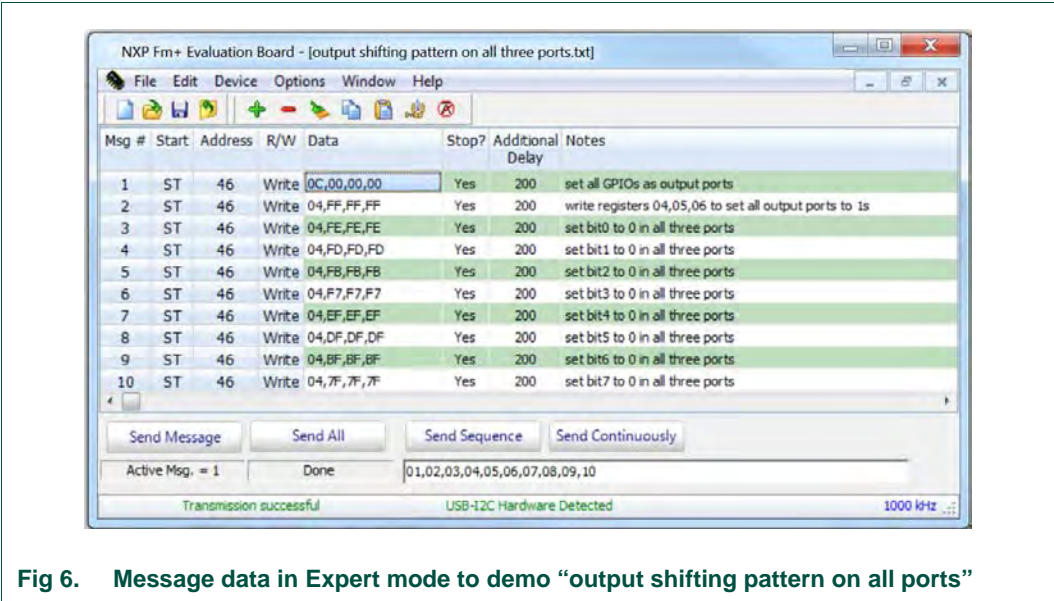

Fig 6. Message data in Expert mode to demo “output shifting pattern on all ports”
3. After opening the “output shifting pattern on all three ports” text file, the “NXP Fm+ Board GUI” in Expert mode screen will be displayed as shown in Fig 6.
| Fig 6. | Message data in Expert mode to demo “output shifting pattern on all ports” | 11 |